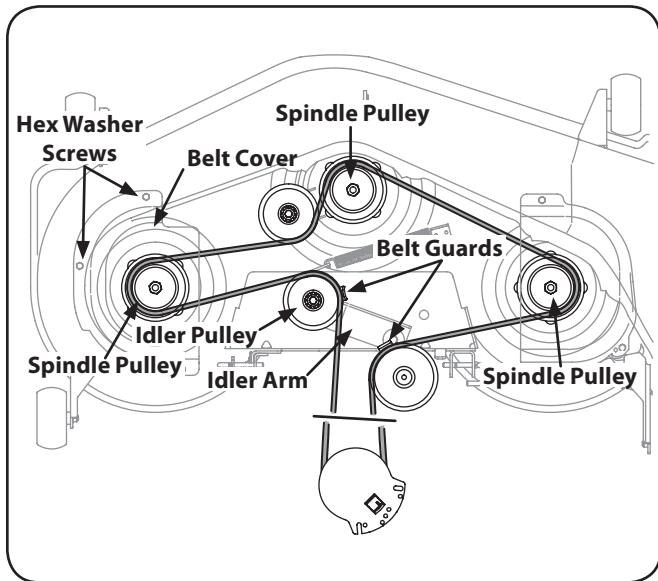

Figure 7-12
- Remove the hex washer screws securing the belt covers to the deck. See Figure 7-12.
- Install the new belt around the spindle pulleys as shown and reinstall the belt covers. See Figure 7-12.